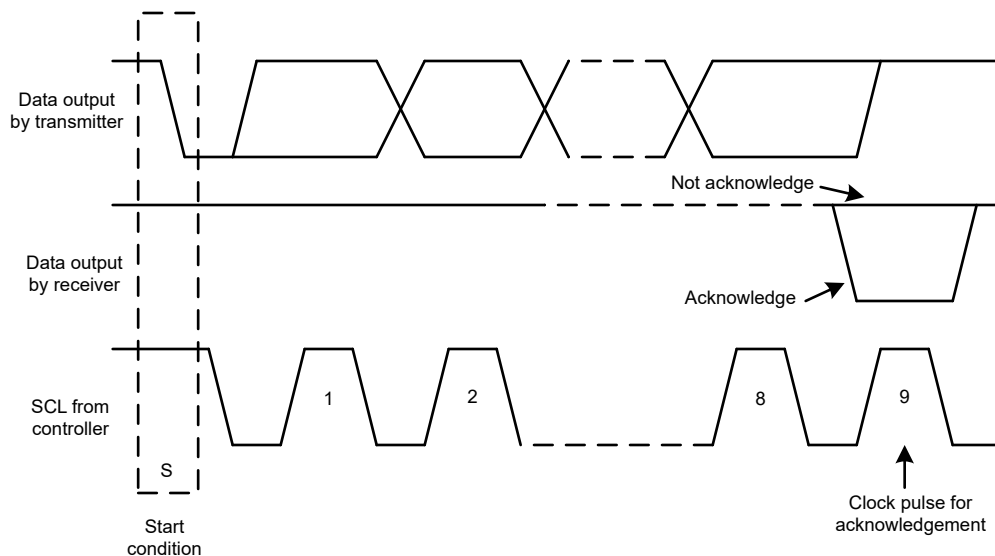
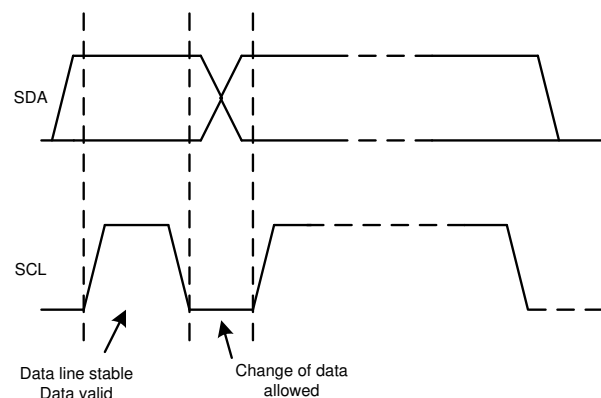

Figure 6-20. Acknowledge and Not Acknowledge on the I²C Bus
Figure 6-22. Bit Transfer on the I²C Bus
Other than specific timing signals, the I²C interface works with serial bytes. At the end of each byte, a ninth clock cycle generates and detects an acknowledge signal. An acknowledge is when the SDA line is pulled low during the high period of the ninth clock cycle. A not-acknowledge is when the SDA line is left high during the high period of the ninth clock cycle, as shown in Figure 6-20.
2. The controller then generates the SCL pulses, and transmits the 7-bit address and the read/write direction bit (R/W) on the SDA line. During all transmissions, the controller makes sure that data are valid. A valid data condition requires the SDA line to be stable during the entire high period of the clock pulse, as shown in Figure 6-22. All devices recognize the address sent by the controller and compare the address to the respective internal fixed address. Only the target device with a matching address generates an acknowledge by pulling the SDA line low during the entire high period of the 9th SCL cycle, as shown in Figure 6-20. When the controller detects this acknowledge, the communication link with a target has been established.